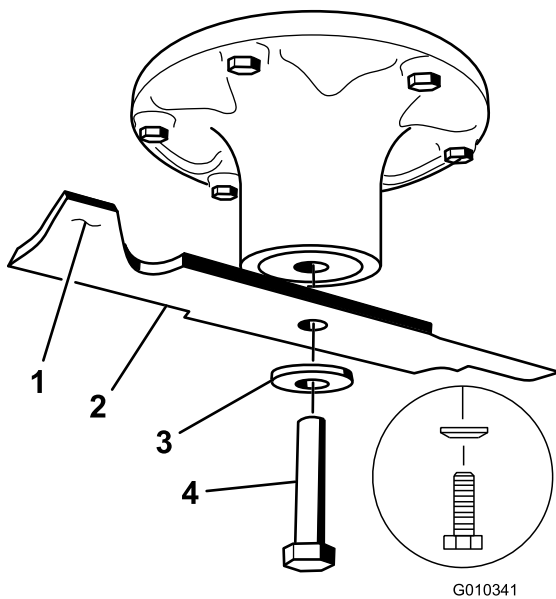

Figure 58
Hold the blade end using a rag or thickly-padded glove. Remove the blade bolt (rotating it counter-clockwise), curved washer, and blade from the spindle shaft (Figure 58).
Note: If the blade stays in a horizontal position, the blade is balanced and can be used. If the blade is not balanced, file some metal off the end of the sail area only (Figure 58). Repeat this procedure until the blade is balanced.
1. Install the blade onto the spindle shaft (Figure 58).
Note: The spring disk cone must be installed toward the bolt head (Figure 58).